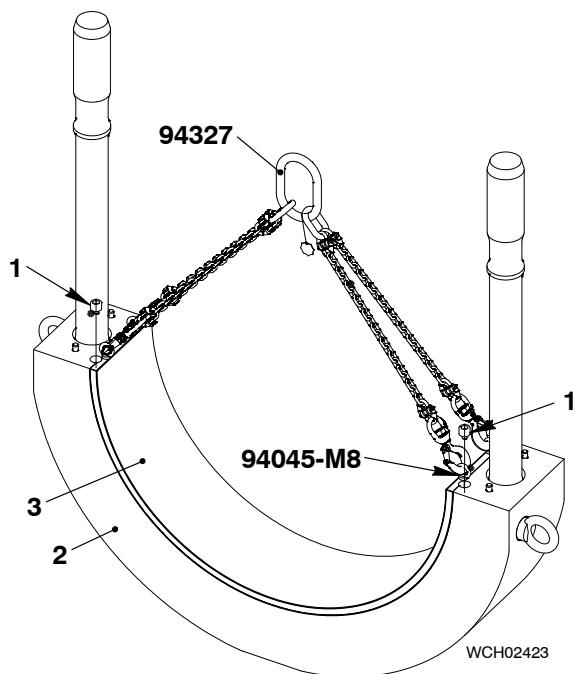

Fig. 11
- 1) Attach the four eye bolts (94045-M8, Fig. 11) to the bottom bearing shell (3).
- 3) Lift the bottom bearing shell (3).
- 4) Clean the seating surface of the bearing cover (2) and the bearing shell (3).
- 6) Attach the bottom bearing shell (3) to the bearing cover (2) with four screws (1).